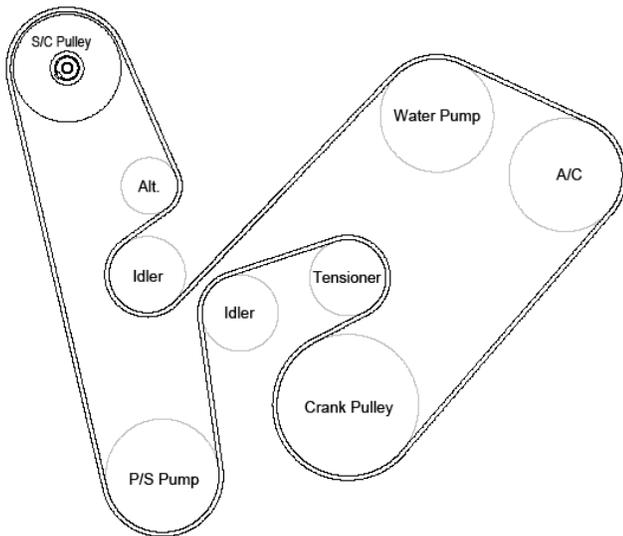

Figure 23
- Route the VF serpentine belt (6) as shown (figure 23).